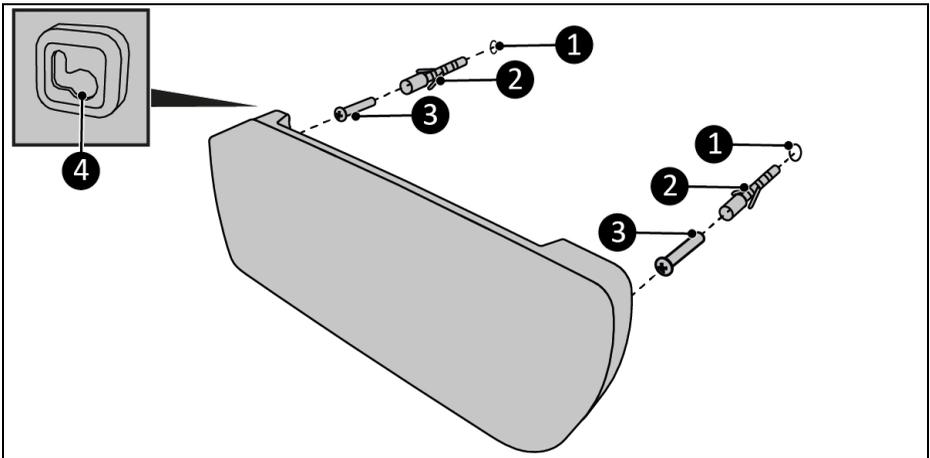

Figure 8
4. Drill two 10 mm holes 39.4 cm horizontally apart from each other at the required location (Figure 8, pos. 1).
5. Insert the plugs into the holes (Figure 8, pos. 2).
6. Firmly screw the screws into the plugs (Figure 8, pos. 3). Make sure the screws stick out 10 mm.
7. Place the hanging eyes on the back of the device over the screws in the wall (Figure 8, pos. 4).